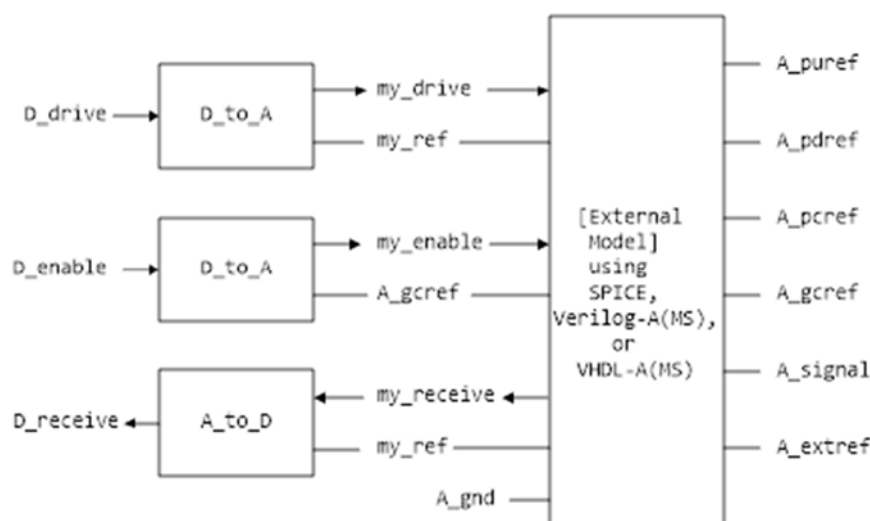

Figure 27 – Multi-lingual [External Model] I/O Buffer
A conceptual diagram of the port connections of a SPICE, IBIS-ISS, Verilog-A(MS) or VHDL-A(MS) [External Model] is shown in Figure 27. The example illustrates an I/O buffer. Note that the drawing implies that the D_receive state changes in response to the analog signal my_receive, not A_signal: